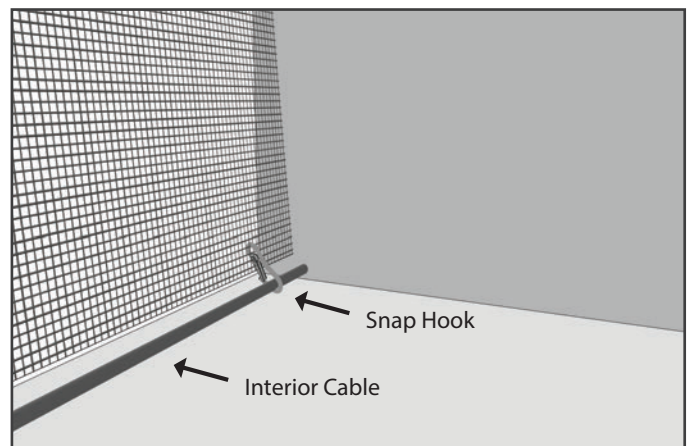

Fig. 16
2. After all the nets have been hooked to poles and exterior cables and nets are hanging down, begin to hook all nets to the interior cable at the floor of the deck. (see figure 16)